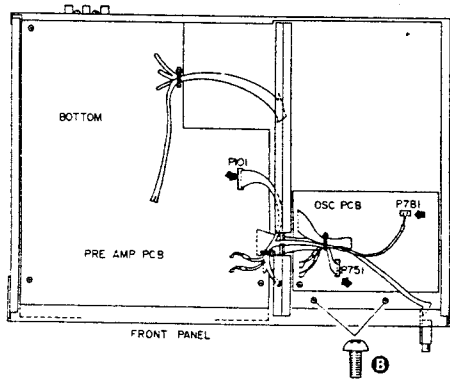

Fig. 3-4
- 1) Remove connector P101 from the PRE AMP PCB and the P751 and P781 from the OSC PCB. Next, remove mechanism block securing screws **B** (Refer to Fig. 3-4.)